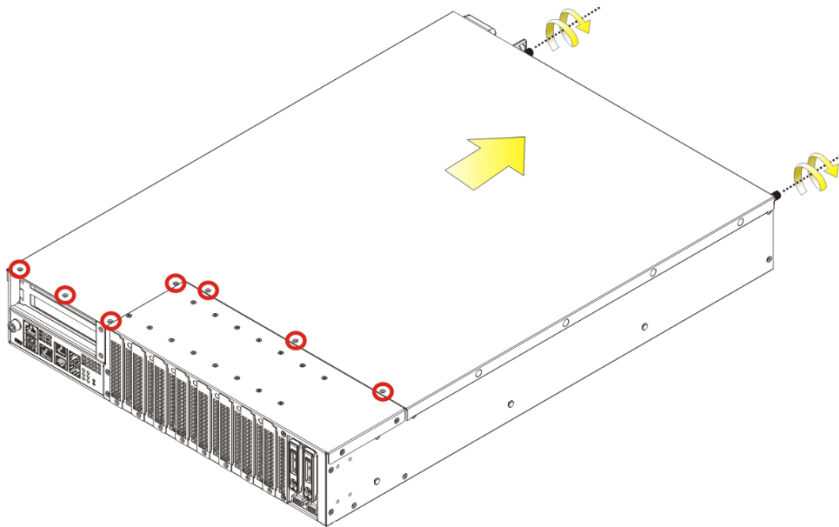

Figure 3-1: Top Cover Removal
- Step 3:** Slide the top cover towards the rear side and gently lift the top cover (Figure 3-1).